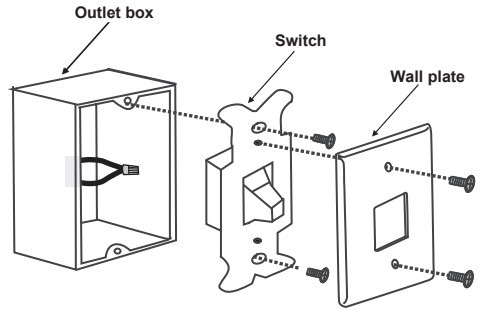

Figure 19
Step 1. Remove the existing wall plate and the old switch from the wall outlet box. Wire nut the **BLACK** leads (hot) together and push back inside the outlet box. (Fig. 19)